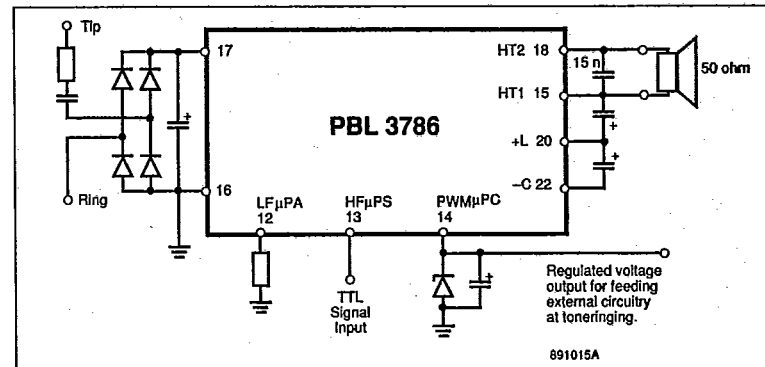

Figure 25. Application with external microprocessor.
**Microprocessor mode:** The tone ringer circuit (see fig.25) can be programmed to interface a microprocessor, and to feed it with power during the ringing signal from the telephone line.